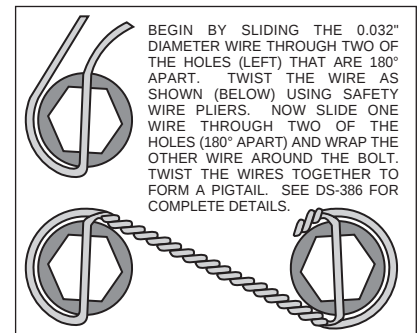

Figure 3. Safety Wire Diagram
- Install five new wheel studs (7) into the hub (8). Torque to 77 ft-lb. **NOTE:** There are two five lug patterns in the hub (5 x 4.00 and 5 x 4.50). Make sure of the correct hole pattern for the correct wheel application before installing studs into hub.
- Pack the large inner bearing cone (9) with high temperature disc brake bearing grease (available from your local auto parts store) and install into the backside of the hub (8). Install the grease seal (10) by pressing into the backside of the hub (8).
- Attach rotor adapter (11) to rotor (12) using six bolts (13). Torque bolts (13) to 180 **in-lb**. Safety wire bolts (13) using standard 0.032 inch diameter stainless steel safety wire as shown in Figure 3. Please refer to Wilwood's data sheet DS-386 (available at www.wilwood.com/pdf/ds386.pdf) for complete safety wire installation instructions. **NOTE:** The flat side of the rotor (12) lugs face toward the rotor adapter (11) with the dished side of the rotor adapter (11) facing away from the rotor (12).
- Mount the adapter/rotor assembly (11 and 12) to the hub (8) using five bolts (14). Torque bolts (14) to 22 ft-lb. Safety wire bolts (14).
- Pack the small outer bearing cone (15) with high temperature disc brake bearing grease. Lightly coat the spindle bearing surfaces with bearing grease. Slide the hub/rotor assembly (8 and 12) with outer bearing cone (15) onto the spindle. Secure using existing spindle washer, existing adjusting nut and nut locking device (adjust bearings per original equipment manufacturer specifications).
- Install the dust cap (17) onto the hub (8). Friction created by the o-ring (16) on the dust cap (17) keeps it from unscrewing. The O.D. of the existing spindle washer may be larger than the I.D. of the dust cap (17) not allowing it to seat against the hub face. Some grinding of the washer O.D. may be necessary to clear the I.D. of the dust cap.
- NOTE:** Please reference the caution statement at the beginning of the assembly instructions. With the bleed screws pointing up, mount the caliper (18) onto the caliper mounting bracket (1) using two bolts (20) and two lock washers (19). View the rotor (12) through the top of the caliper (18). The rotor (12) should be aligned in the center of the caliper (18). If not, loosen the two bolts (20) and adjust the caliper (18) by using 0.032 inch thick shim washers (21). The shim washers (21) should be placed between the caliper (18) and the caliper mounting bracket (1). Finger tighten and recheck alignment. Add as many shim washers (21) as necessary to achieve the correct alignment. Always use the same amount of shims on both the top and bottom caliper mounting bolts (20). Loosen the two bolts (20) and apply red *Loctite*® 271 to bolt threads (20) and torque to 30 ft-lb. Safety wire the two bolts (20).
- Install the disc brake pads (22) and secure using cotter pin (23). Repeat this procedure for the other wheel.